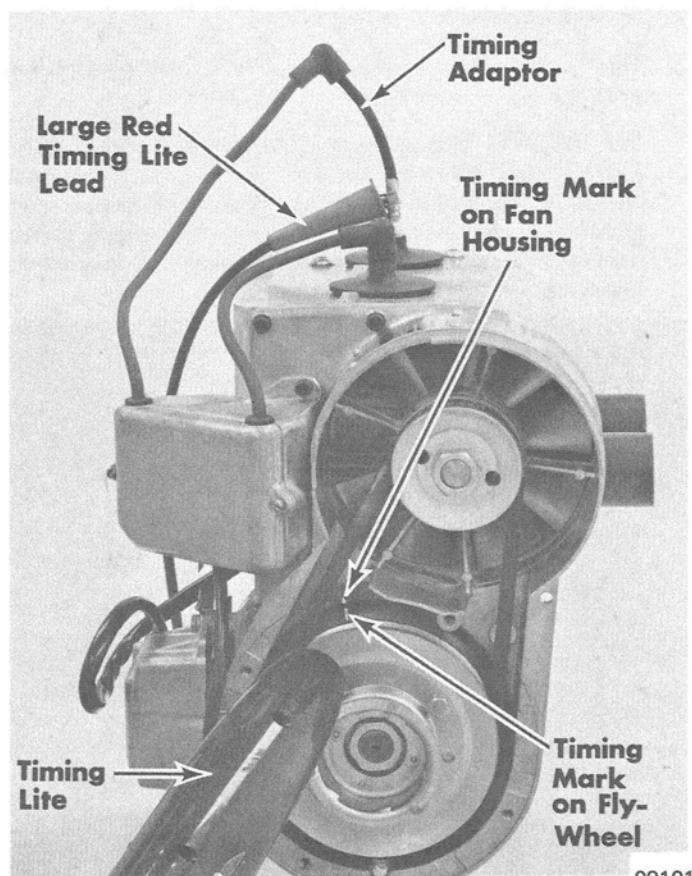

Figure 2. Checking Ignition Timing
- a. Insert timing adaptor (Figure 2) between No. 1 (PTO side) spark plug and No. 1 spark plug wire.
- b. Connect large red timing lite lead to timing adaptor. (Figure 2)
9. Aim timing lite at timing marks on fan housing and flywheel. (Figure 2)
10. With engine running at 3000 RPM, timing mark on flywheel should be aligned with timing mark on fan housing. (Figure 2)